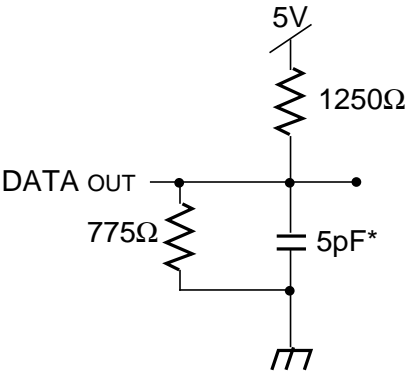

Figure 2. Output Test Load
1. Transition is measured  $\pm 500\text{mV}$  from Low or High-impedance voltage Output Test Load (Figure 2).
1. Transition is measured  $\pm 500\text{mV}$  from Low or High-impedance voltage with Output Test Load (Figure 2). This parameter is guaranteed by device characterization but is not production tested.
7. This parameter is determined by device characterization, but is not production tested. Transition is measured  $\pm 500\text{mV}$  from steady state with the Output Test Load (Figure 2).